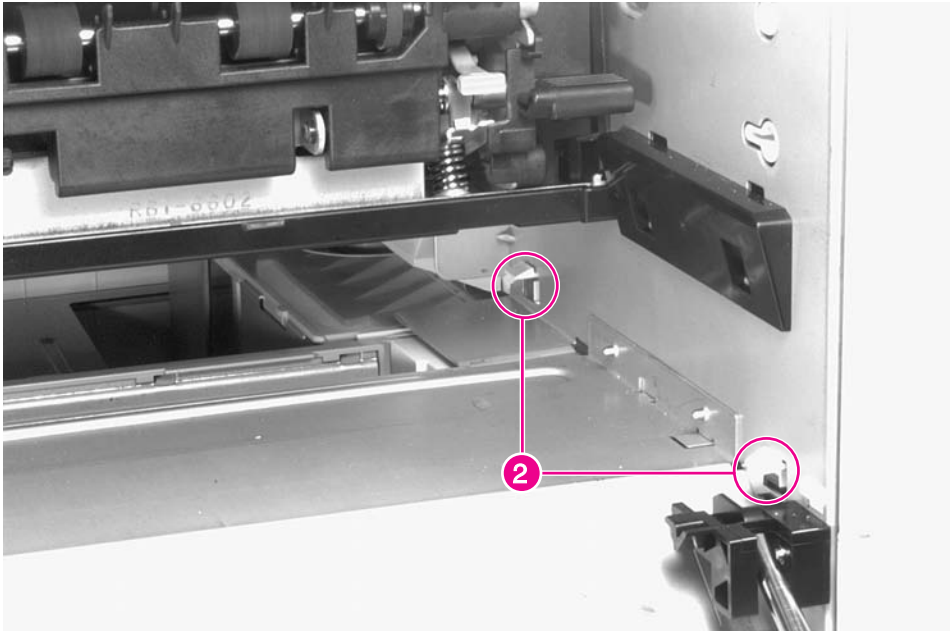

Figure 6-8 Front Cover (2 of 2)
- 3 Open the Diverter Access Door and release the two plastic retaining tabs inside the Duplexer cavity (figure 6-8, callout 2).